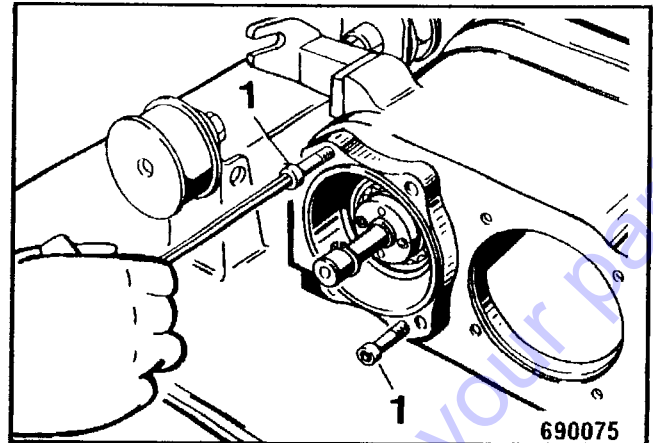

Fig. 17
- Cover the threads of the forcing screws 1 (Fig. 17), M8 min. 35 mm long, with oil.